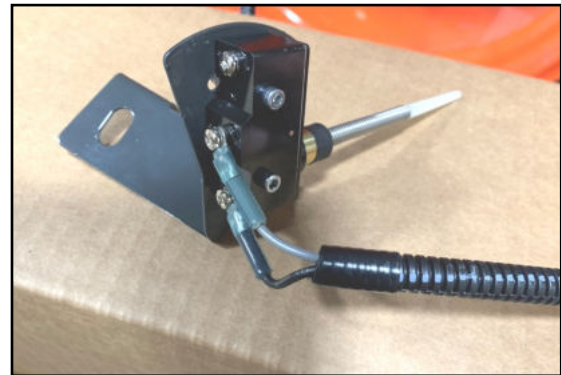

Fig. 7.9 (Connect Wires to Switch)
- 7.9 See fig. 7.9. Route the wires up behind the right control stick and connect to the supplied switch as shown. The gray wire should go to the center screw (NO, #3) and the black wire should be connected to the COM, #1 screw.